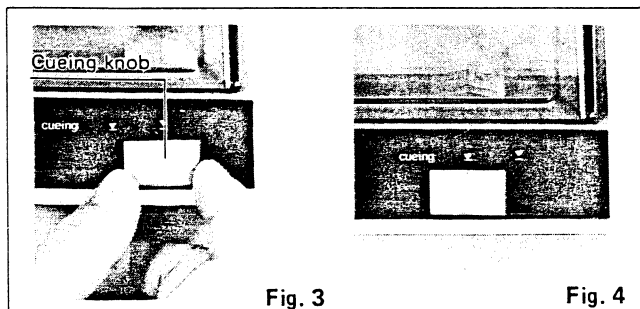

Fig. 3
5. Set the cueing knob to the "▼" position. (See Fig. 3)